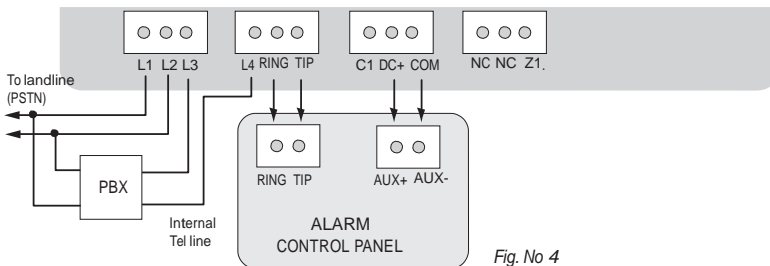

Fig. No 4
1. Connect the circuit as shown in Fig. No.4 – connect telephone input of the Alarm Control Panel RING/TIP to RING/TIP connectors of communicator Triton08.